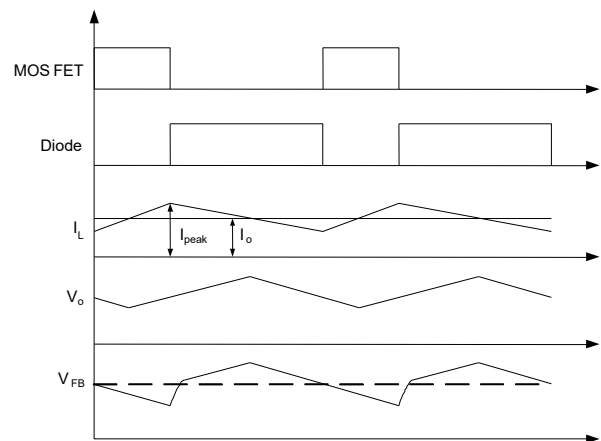

Figure 3: Constant-Voltage Regulation
The lower resistor of the internal feedback divider is $500k\Omega$, typically. As a result, when a feedback divider is connected to FB externally with a much smaller resistance, the internal feedback is overridden, so the MP175 output voltage is externally adjusted (see Figure 3).
As shown in Figure 3, the internal MOSFET is turned on when the feedback (FB) voltage is lower than the MOSFET turn-on threshold (V_{FB}) and is turned off based on the peak current limitation.